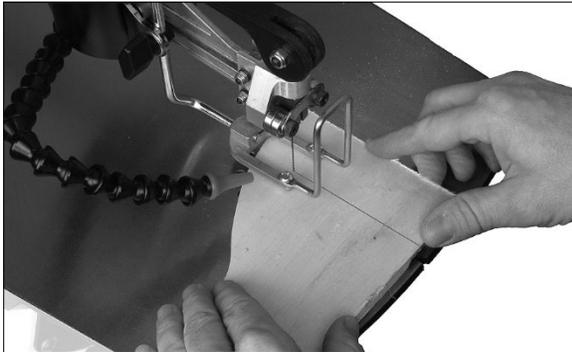

Figure 10-1: straight cutting
5. Hold workpiece firmly against table and feed workpiece directly into front edge of blade with steady pressure. See Figures 10-1 and 10-2. Do not use excessive pressure; allow the blade to do the work. Compensate for blade drift.